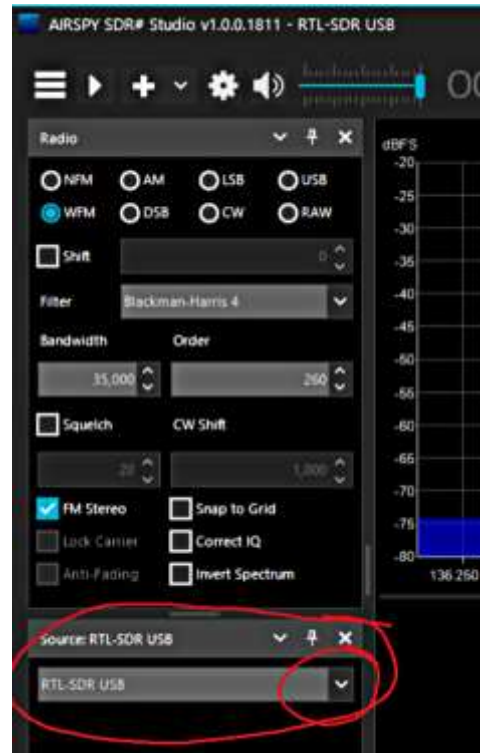

Figure 9 Select RTL-SDR USB from the drop down menu.
11. When SDR# opens, find the “Source” partition and from the drop down menu select RTL-SDR USB (Figure 9).